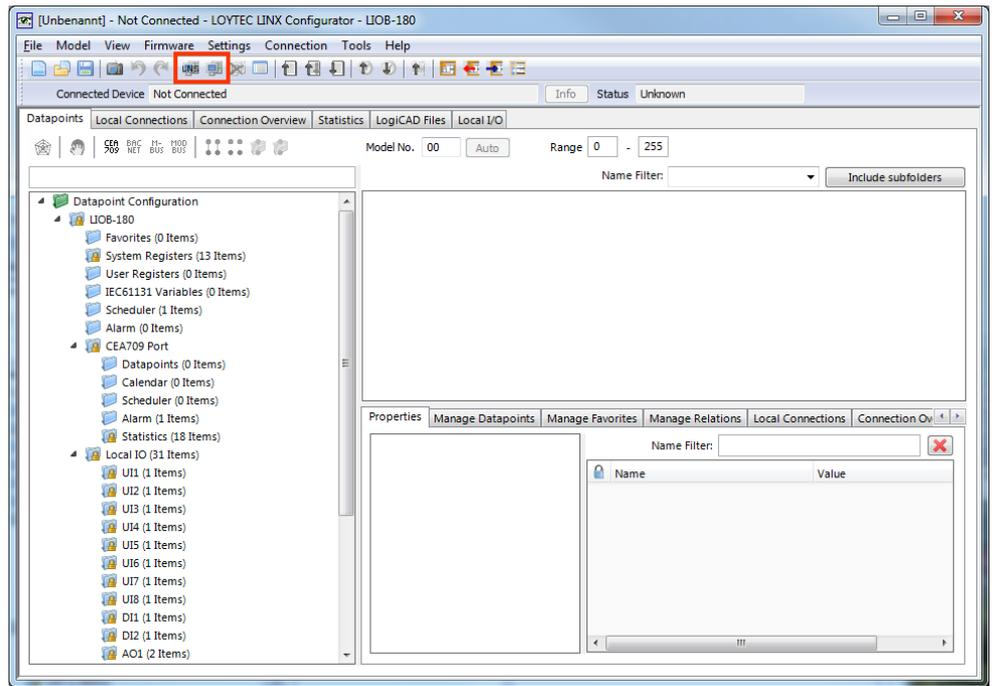

Figure 8: L-INX Configurator main screen
1. Start the L-INX Configurator software by selecting Windows **Start** → **Programs** → **LOYTEC LINX Configurator** → **LOYTEC LINX Configurator**. The application starts up and displays the data point manager screen as shown in Figure 8.
2. When the device is online, connect to the device by clicking on the LNS or device connect speed button as indicated by the red rectangle in Figure 8.